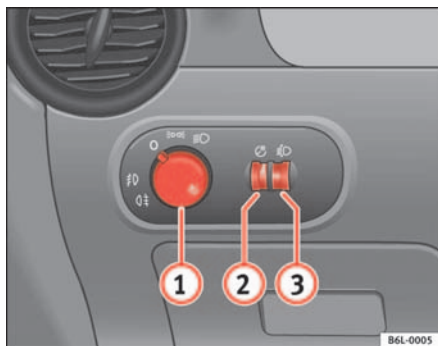

Fig. 56 Detail of the dash panel: Switch for lights, fog lights and rear fog light
- Turn the light switch  $\Rightarrow$  fig. 56 to position  $\Rightarrow \text{☞}$ .